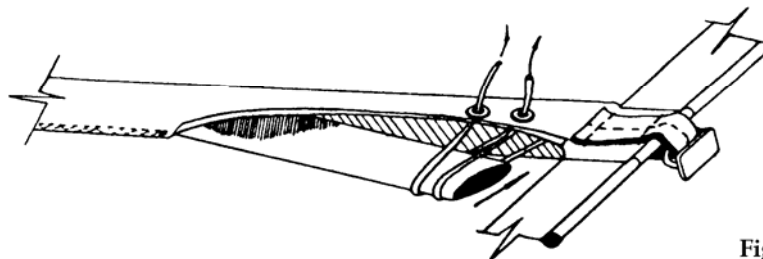
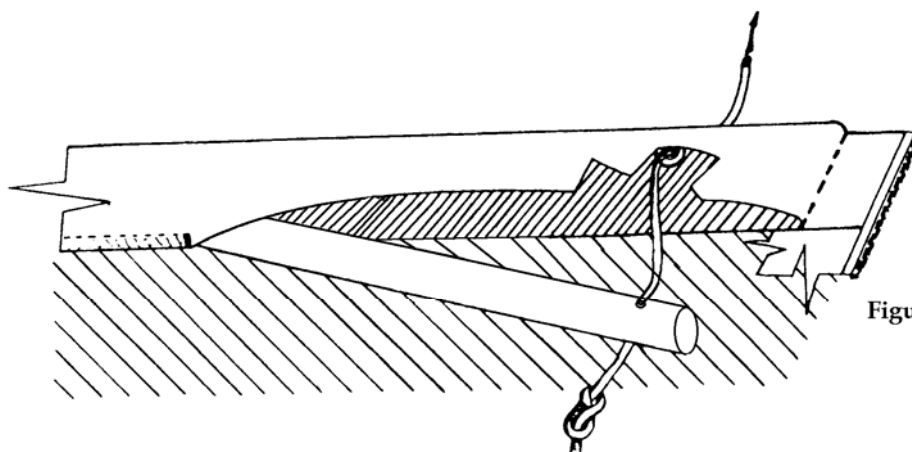

Figure 3a
Figure 3c
- Install mainsail battens and cover battens. (Fig. 3a,b,c)
Now you are ready to insert the battens from luff to leech in their respective pockets. There are four sail battens and two cover battens. Each batten is custom cut to fit exactly and snugly into its pocket. Each batten is identified with markings to indicate which pocket it goes into and how it should be inserted. Please note the leech end of the battens are angle cut to match the leech angle of the sail. After insertion, each batten must be tied into the pocket, as shown in Figure 3a and 3b, and the Velcro closure should be secured. When inserting the cover battens, note that each cover batten has a line passed through it, as shown in Figure 3c at the forward end. This line, when the batten is in place, must pass through a hole in the batten pocket in the acrylic StackPack cover. There is no need for any other Velcro closure on cover pockets.